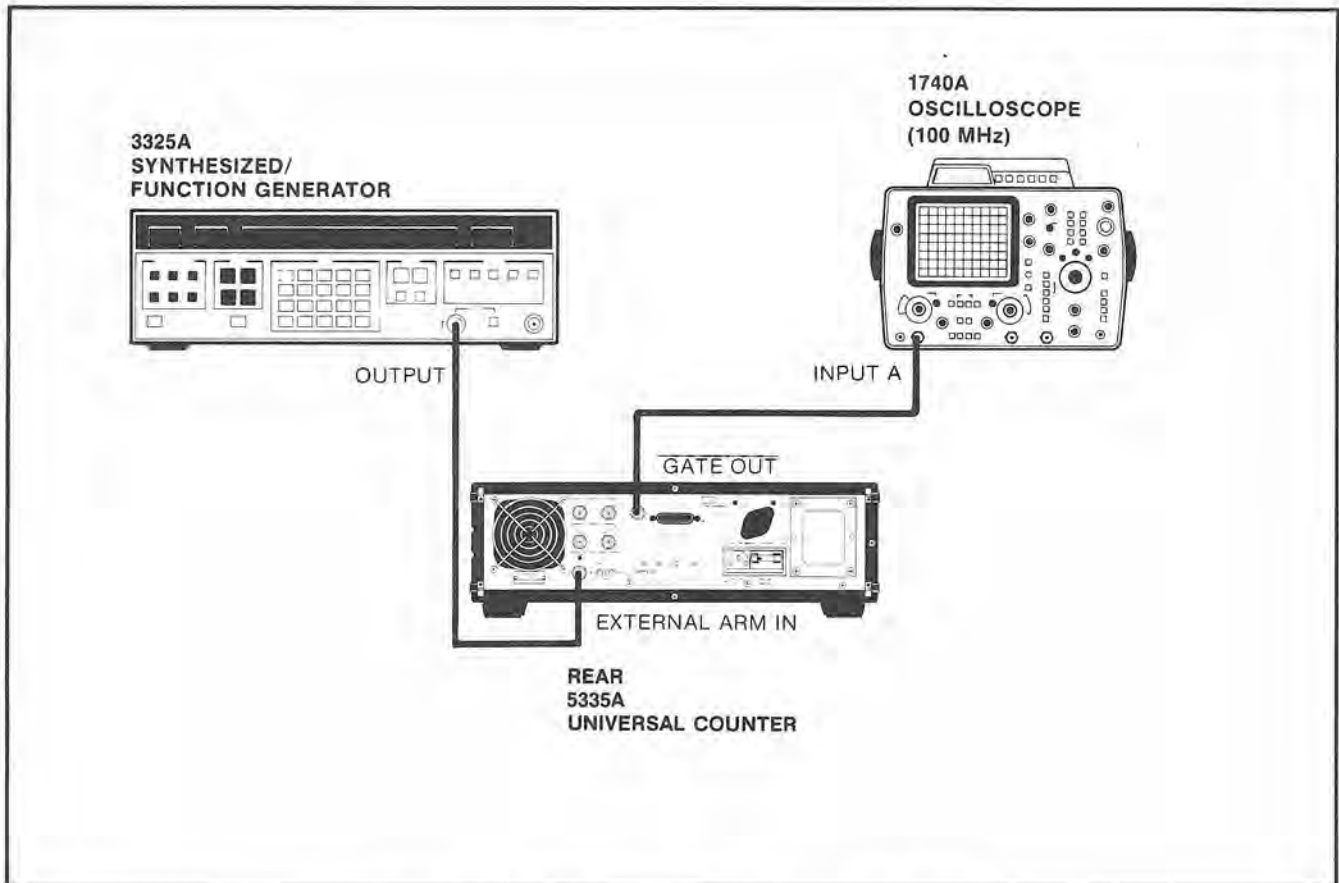

Figure 5-6. A6 Rear Panel Assembly Adjustment Setup
c. Connect the 5335A rear panel GATE OUT connector to the 1740A oscilloscope INPUT A and the 3325A Synthesizer/Function Generator to the 5335A EXTERNAL ARM IN connector (through a 50Ω feed-through) as shown in Figure 5-6.